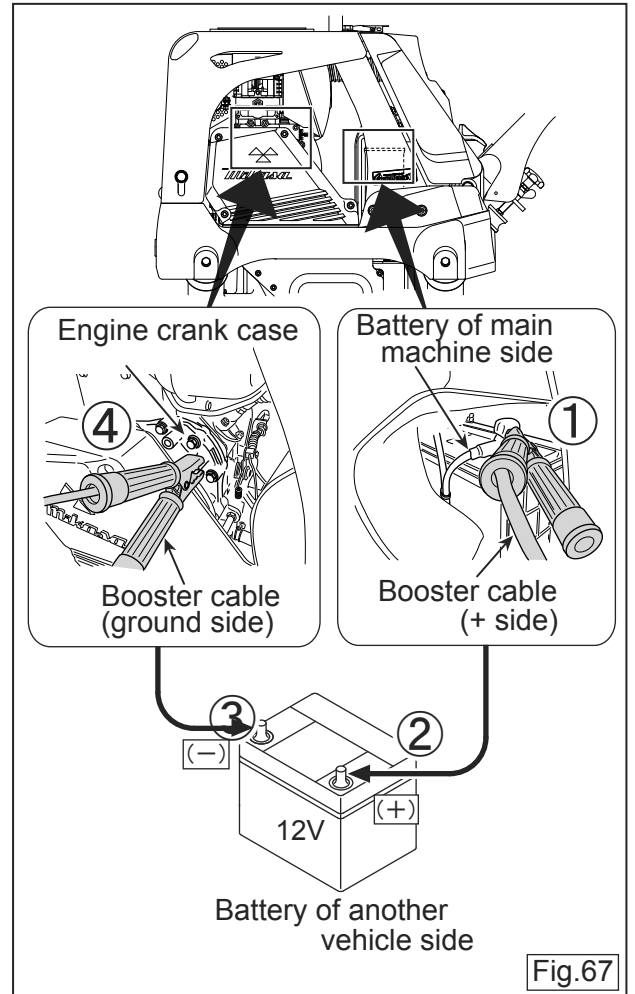

Fig. 67
Remove the handle cover, and if the accumulator move about 2 to 3 cm when moved the travel lever to backward position as shown in Fig. 67, air bleeding is completed. If there is the lack of air bleeding, do the procedure "1" again. (Fig.64,
● Starting method using booster cable (Jump-starting)(Fig. 67)
- Unpainted and protruded part of the crank case of the engine shown by "Fig. 67" (Connect the ground wire.)